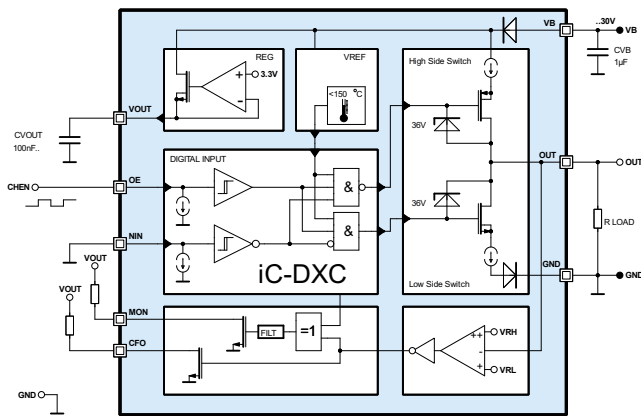
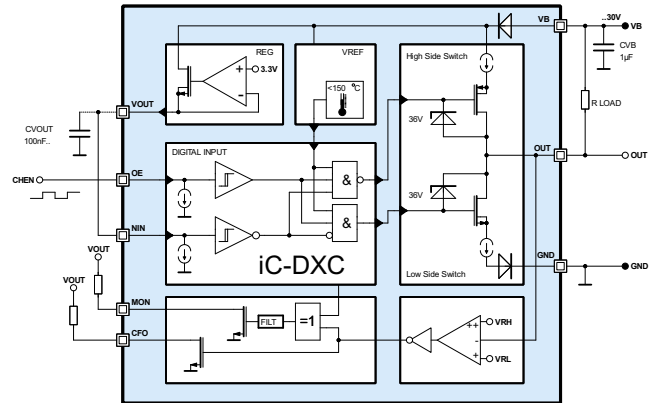
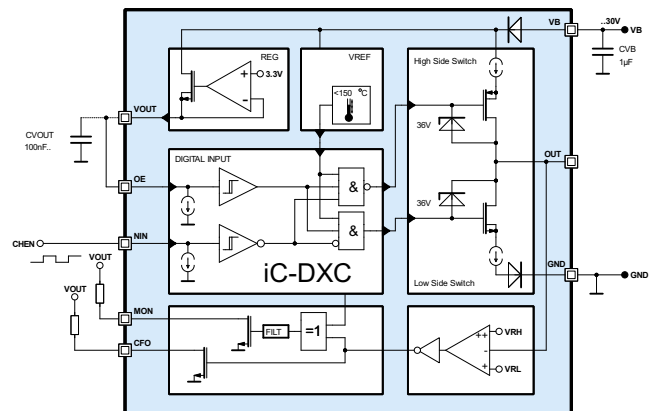

Figure 4: Configuration as High-Side (PNP-Switch)
Figure 5: Configuration as Low-Side (NPN-Switch)
Figure 6: Configuration as Pushpull
The iC-DXC can be operated in high-side (PNP), low-side (NPN) and push-pull (PP) switch mode. Figure 4 shows the high-side operation where NIN pin must be kept low and the OE pin controls the switch. Figure 5 shows the low-side operation where NIN pin must be kept high and the OE pin controls the switch. Figure 6 shows the push-pull operation where OE pin must be kept high and the NIN pin controls the switch. If the OUT signal differs from what declared in tables 1, 2 and 3 (due to external forcing) for more than 14 μ s (cf. Electrical Characteristics No. 510), this event will be signalled by a low level at MON output.
Table 1: Output Function table Fig. 4. High-side mode (PNP-Switch) with external pull-down.
Table 2: Output Function table Fig. 5. Low-side mode (NPN-Switch) with external pull-up.
Table 3: Output Function table Fig. 6. Push-Pull mode